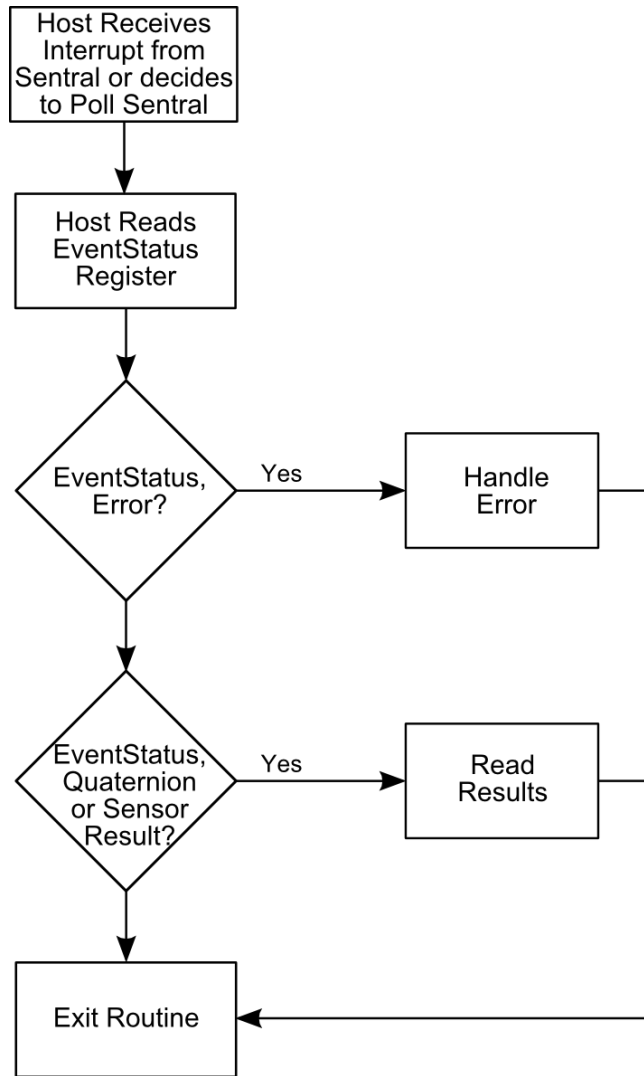

Figure 4-3: SENtral Normal Operation Flow
After performing the steps listed above, SENtral is ready to start generating orientation data. The registers used to run in Normal Operation are given in Table 4-2, the steps to follow comes after this, and a flow diagram is given in Figure 4-3.
- d) Interpret and act on the EventStatus register in the priority shown in Figure 4-3. If bit [1], the Error bit, is '1', see Section 4.3.1. If bits [2], [3], [4], or [5], the Results bits, are '1', see Section 4.3.2. Bit [0], the CPUReset bit, should never be '1', since this bit only can be '1' after a Reset or powering up and prior to loading the Configuration File, and on the SENtral M&M module loading of the Configuration File is automatically performed after powering up.
Reading the EventStatus register clears it. It is possible for more than one bit position to be '1' in the EventStatus register, especially if the host does not always read the EventStatus register after receiving an interrupt. Similarly, if multiple bits are set to '1' in the EventStatus register, once the register is read all the bits will be set to '0'. For this reason the EventStatus register should be processed in the priority shown in Figure 4-3, as information will be cleared for events that are not handled.